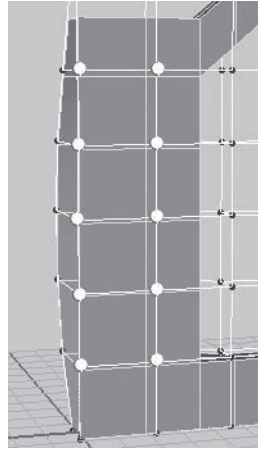

FIGURE 3.69 Selected back lattice influence points.
47. In Perspective view, select the lattice influence points in the back of the sack by clicking on them. Make sure you select the two inner rows between the arm and the foot. Any other point should be deselected (see Figure 3.69).